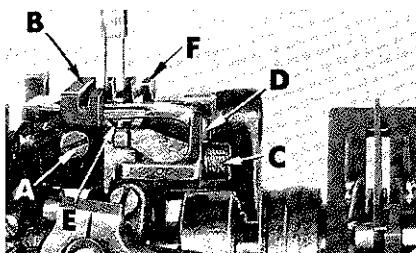
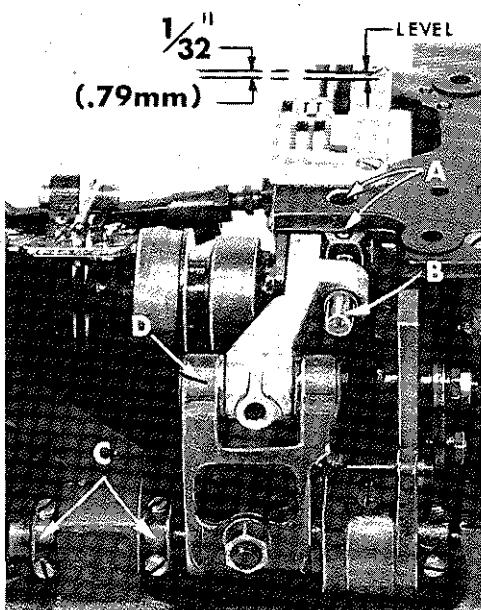
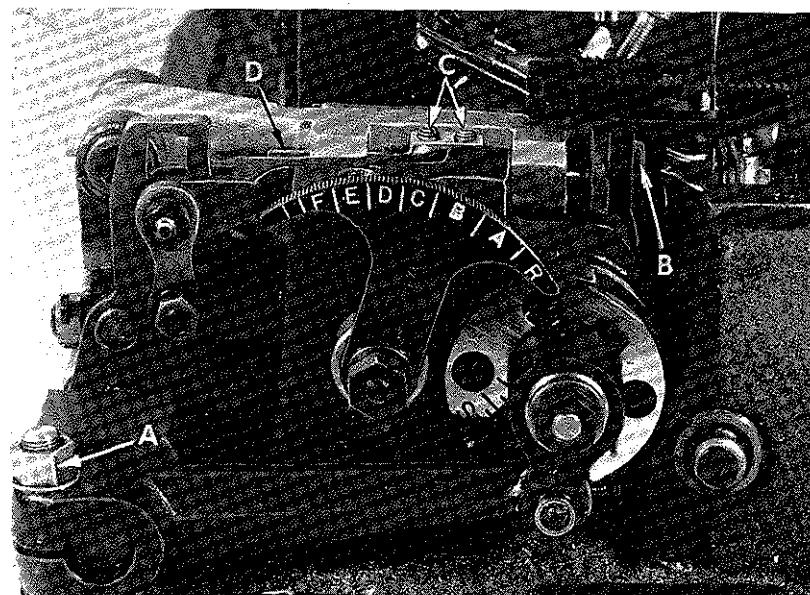

Fig. 9
Fig. 10
Fig. 12
The differential feed dog should be set to rise the depth of a full tooth or approximately $3/64$ inch (1.19mm) above the throat plate at highest point of travel. Adjustment can be made by loosening screw (A, Fig. 9 or B, Fig. 12), raise or lower feed dog (B, Fig. 9) and retighten screw. At maximum feed travel, the feed dog should clear the forward end of throat plate by $1/32$ inch (.79 mm) Fig. 10; also parallel to the top surface of throat plate and centered in throat plate slot across-the-line-of-feed. Adjustments can be made by loosening set screws (A, Fig. 10 or C, Fig. 12), permitting the differential feed bar (B, Fig. 10 or D, Fig. 12), to be moved forward, backward or rotated as needed to acquire the aforementioned conditions. Under extreme circumstances it may be necessary to shift the complete feed mechanism slightly, to the right or left to meet these conditions. This can be done by loosening collars (C, Fig. 10) and moving feed rocker (D); retighten collars and set screws securely. Make sure the feed rocker arm does not bind after making this adjustment.
of-feed, loosen nut (A, Fig. 12) and move feed rocker forward or backward as needed, retighten nut.
To raise or lower main feed dog, loosen Allen screw (C, Fig. 9) allowing feed dog holder (D) to be moved. NOTE: Screw (E) must be set to support the main feed dog (F) when specified height is obtained. Retighten screw (C).